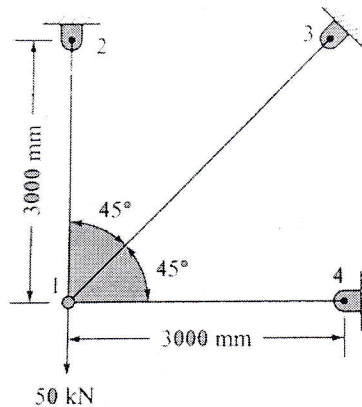

Figure 1
4. Determine the stresses and reaction for the following truss element. Given $E=200\text{GPa}$ and $A = 2000 \text{ mm}^2$. (Figure 1) [10]